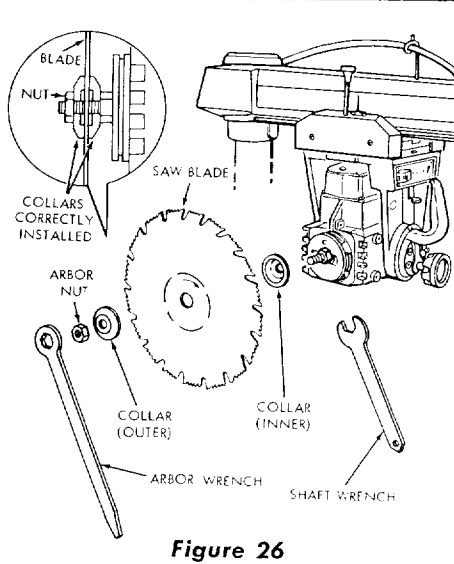

Figure 26
- (1) Place the inner collar on motor shaft (figure 26) with flange next to saw blade (facing outward).